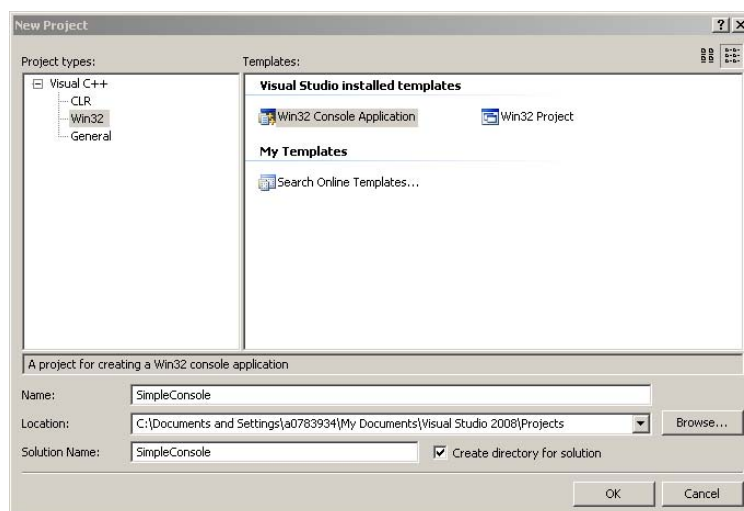

Figure 3. VC++ Express New Project Wizard
- b. Enter name and path of the project. See Figure 3.